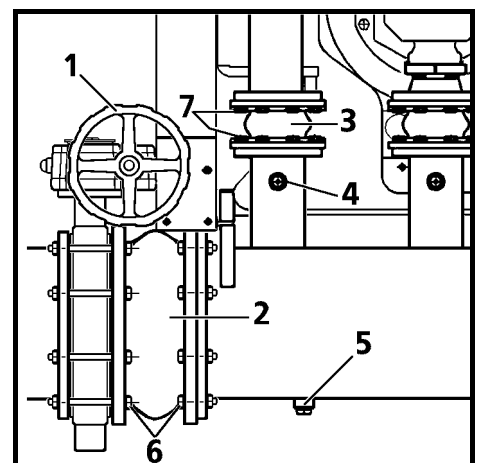

Fig. 25
The mounting bolts of the expansion joints (Fig. 25, pos.2 or 3) must be coated with loctite (Id. 8503598).